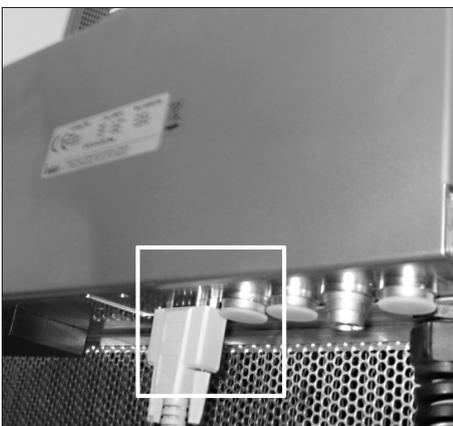

Fig.12: Cryopilot A Serial Port
- ▶ Connect one end of the USB to Unistat cable to a USB port on the computer and the other end to the serial port on the underside of the ComBox as shown in Figure 12. The ComBox is located at the rear of the Cryopilot A.